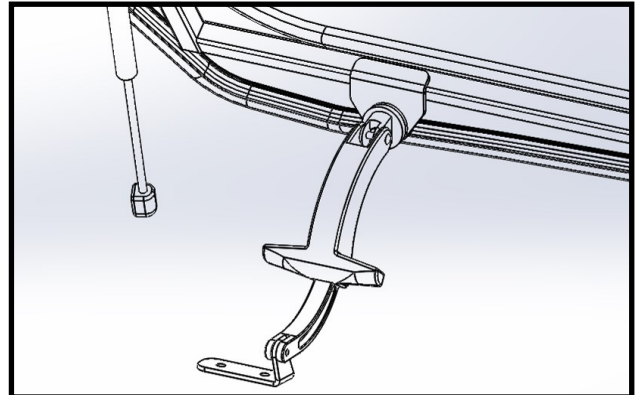

Fig. 10.3 (Windshield latches)
**10.3** For a glass windshield, install the latches to the windshield frame, oriented as shown in fig. 10.3.